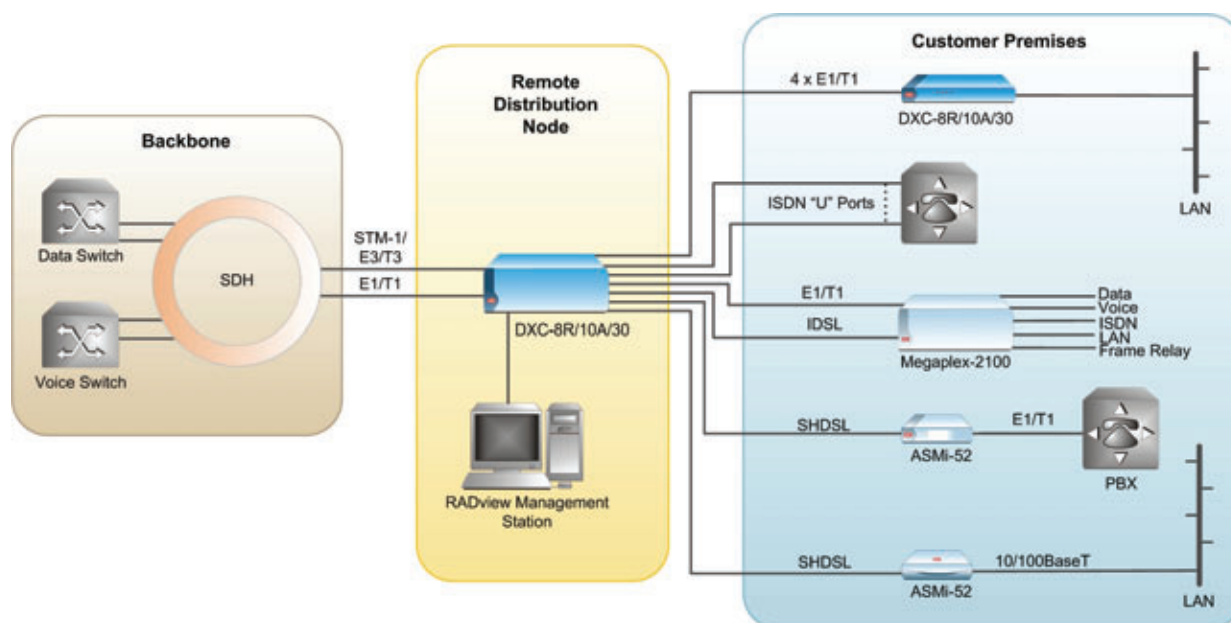

Figure 1. Multiservice Access Platform
- Local loop access with traffic grooming for redirecting voice and data to different trunks (see *Figure 1*)